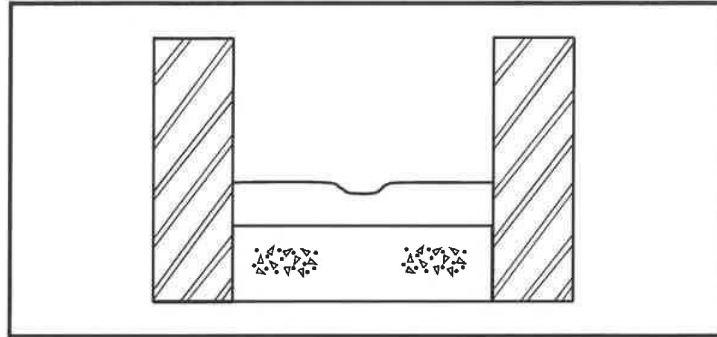

FIGURE 3.1
3.1 FIGURE 3.1 below shows a faulty manhole installation.